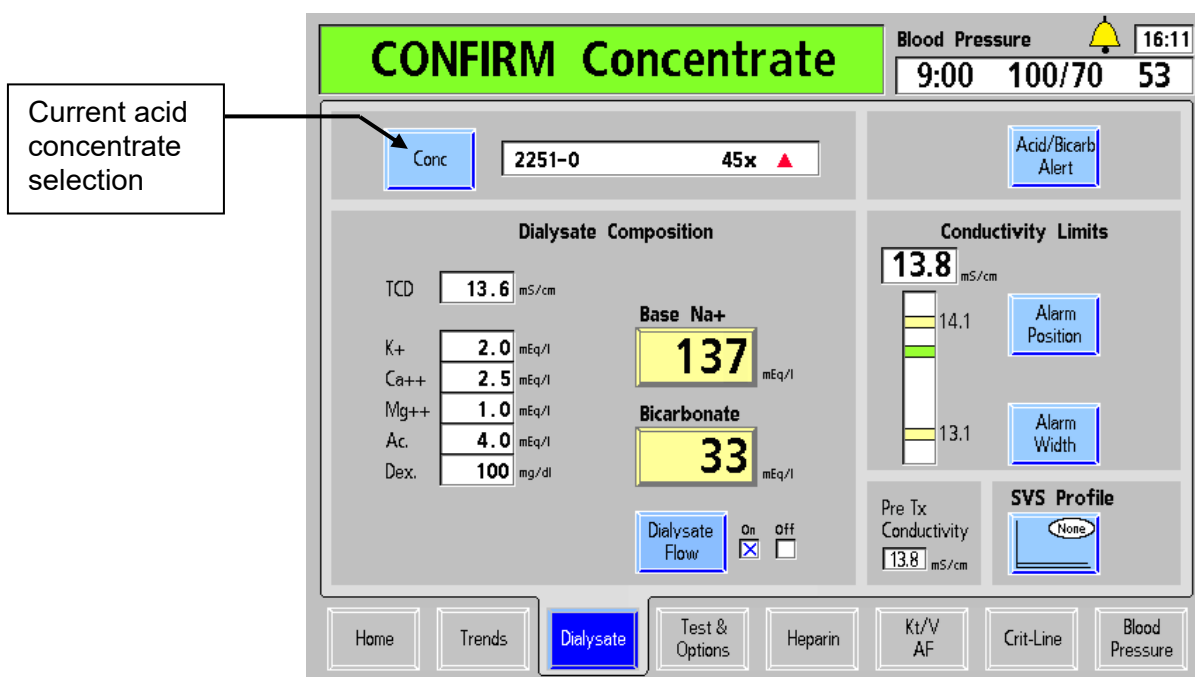

Figure 23 – Confirming Concentrates on the Dialysate Screen (functional software version 2.72 or later)
- If the machine is being prepared for normal dialysis: select the **Dialysis** button on the display screen by highlighting the button with the touchpad and either tapping or pressing the **CONFIRM** key. The “Dialysate” screen will appear on the monitor (see Figure 23). (The optional touchscreen can be used by touching the **Dialysis** button directly.)